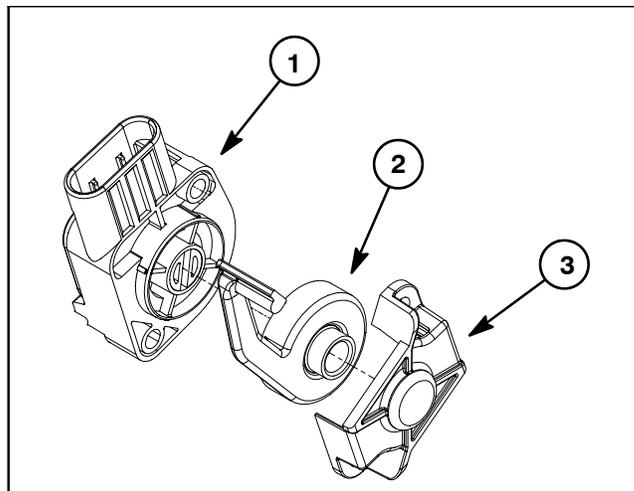

Figure 15.1
**NOTE:** The following adjustment procedure should be used on vehicles that have a potentiometer with a long lever (Figure 15.1). If potentiometer has a short lever, use the procedure on the preceding page.